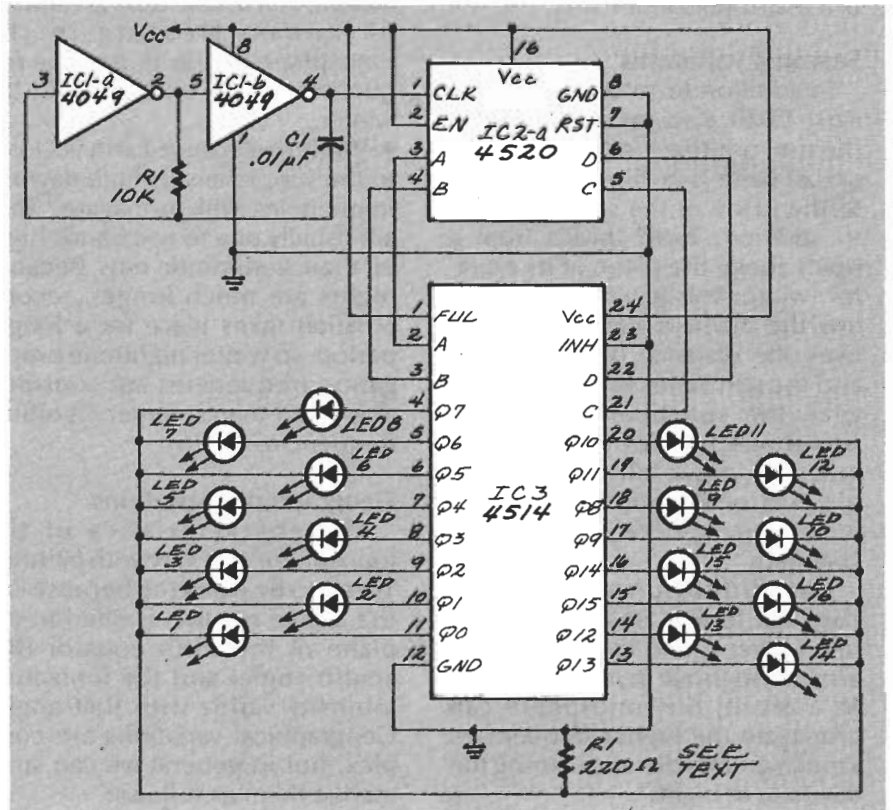

FIG. 2
As shown in Fig. 2, the scale generator is remarkably simple. For two decades of unique graduations, two decade counters (7490) and one package of open-collector AND gates (7409) are required. These gates switch a crude voltage-divider digital-to-analog converter, generating the various pulse heights. Gate A in Fig. 2 ANDs the system clock with the basic scale unit—five in Fig. 2(a) or two in Fig. 2(b)—enabling the voltage-divider output to rise. Low gates B, C, or D (or combinations) clamp the output to appropriate levels as determined by R_1 , R_2 , R_3 , and R_4 . As higher-order counters progres-
1. Measurement aids. Graduated scales are generated on dual-trace scope or chart to facilitate probing of displayed data. In lower trace (a), every fifth clock pulse has a spike in lower trace (b), every second clock has one. From these scales, observer sees that upper trace rises at count 20 and falls at count 40. Circuits for generating scales are shown in Fig. 2.
Use of the 7490's quinary and binary counters obviates the need for extensive decoding. For example, the output of gate A in Fig. 2(a) goes high on the clock high of count 4, (9, 14, 19, etc): gate B ANDs this high signal with counts 5-9 (15-19, 25-29), thus decoding count 9 (19, 29). The cascaded decade circuit decodes counts 49 and 99. For display on a scope, a low-pass filter or integrator consisting of R_{LP} and C_{LP} is added to improve the appearance of the scale by increasing the rise and fall times of the pulses. Relative pulse heights may be altered via resistor ratios of R_1 , R_2 , R_3 , and R_4 . However, to ensure adequate noise margin at inputs of gates C and D, R_1 must not be greater than R_3 or R_4 .
The circuit in Fig. 2 is one way of multiplexing the same 16 LED's. All we have is a simple clock driving a 4514. The outputs of the decoder are normally low and the selected output goes high. A similar chip, the 4515, has normally high outputs so you can use the circuit for LED's with a common leg tied to either ground or power, whichever you prefer.